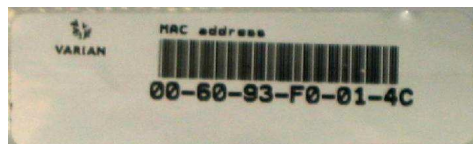

Figure 7: MAC Address Label Sticker
11. When a new replacement Processor PWB is received, it will be accompanied by a new MAC address label *Figure 7*.